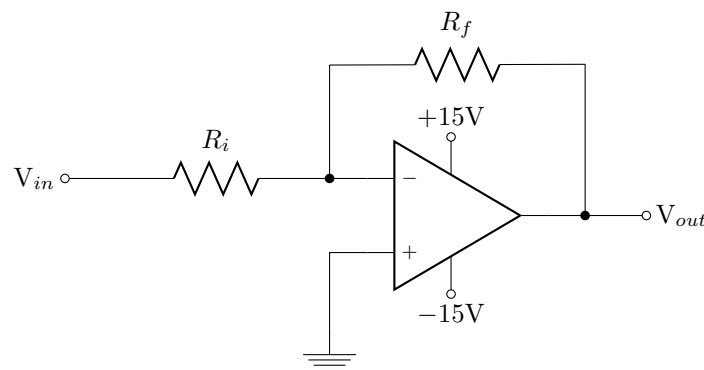

Figure 4: An inverting amplifier circuit.
Now that we have filtered the noise from our input signal, we wish to amplify it to a more useful level. One commonly used amplifier is the inverting amplifier, shown in figure 4. This amplifier utilises a negative feedback arm in order to increase stability of the circuit, and to determine the resulting gain.
**Question 2.** Using the two ‘golden rules’ and Kirchoff’s current law, show that the gain for the circuit shown in figure 4 is given by:
- (7) Build the circuit shown in figure 4, with  $R_i = 10 \text{ k}\Omega$  and  $R_f = 47 \text{ k}\Omega$ . Ensure that you include bypass capacitors as in the previous section. Connect your previous circuit to  $V_{in}$  and simultaneously observe  $V_{in}$  and  $V_{out}$  on the oscilloscope. Check that the experimental gain agrees with equation (3). What is the relative phase of the input and output signals?
- (8) Replace  $R_f$  with a resistor that will give an output  $V_{out}$  that peaks between +2V and +10V, given the input signal of your probe. Use the oscilloscope to determine your heart rate, and give an error associated with this rate.